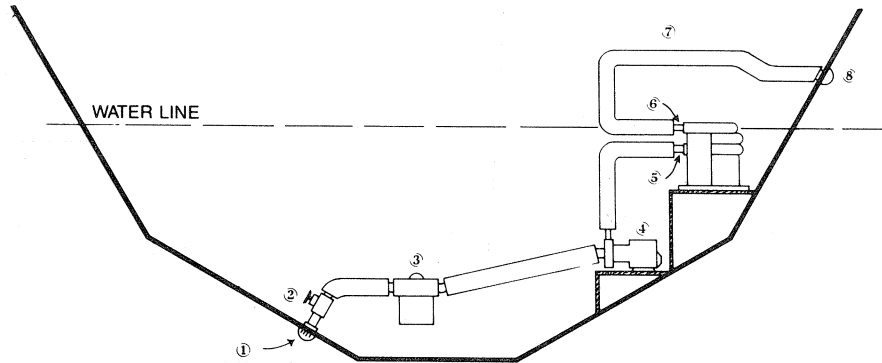
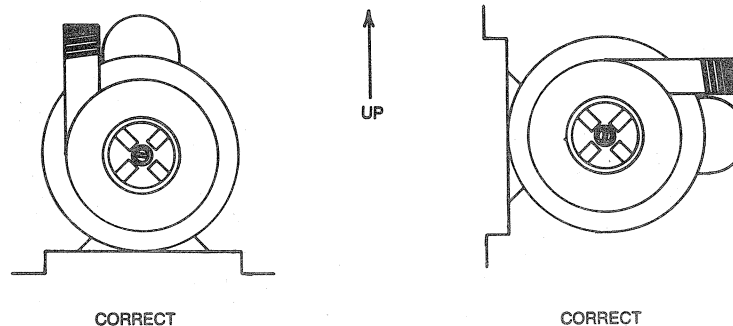

FIGURE 1
FIGURE 2
The AQ-30, AQ-30-2(C) and the AQ-60 come equipped with their own internal chillwater pump. The only time that an external chillwater pump is used is when two or more chillers are manifolded together. In this application, the internal chillwater pumps are used solely to pump water through the chiller coil itself and then on to the chillwater manifold. The main chiller pump then circulates the water to the rest of the system. The AQF(H) chillers use a separate chillwater pump. This should again pump through the chiller tank and then on to the system or manifold. The only acceptable ways of mounting the chiller pump is shown in **Figure 2** below.
1. The pump must be securely mounted at a point in the hull that is below the water line of the boat under all conditions (see Figure 1). The position of the pump should be as close to the centerline of the boat as possible, no further forward than the front of the engine compartment and no further aft than the propeller shaft stuffing boxes. The pump should be mounted in a horizontal position and never on its head or end. The only two acceptable positions are shown in Figure 2.